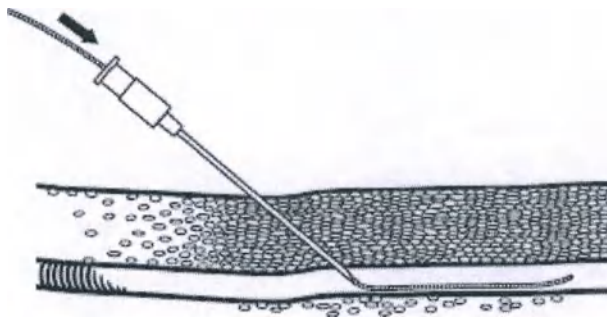

Fig. 2
2. Using fluoroscopic guidance, introduce the wire guide through the needle; advance the wire guide 15 to 20 cm into the vessel. (Fig. 2)